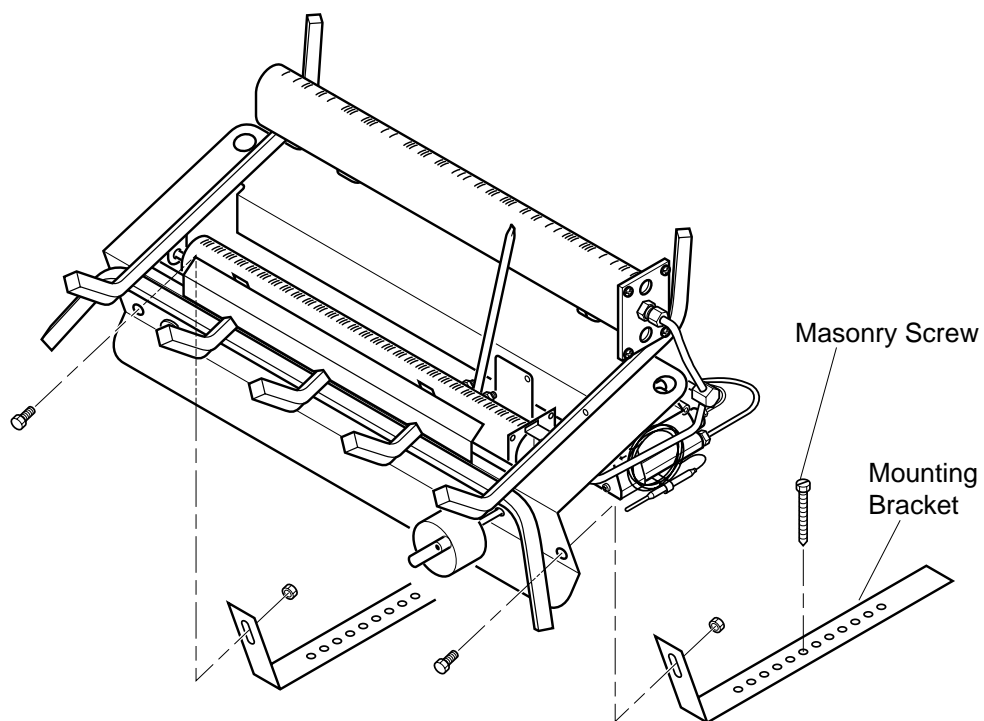

Figure 13 - Attaching Mounting Brackets to Heater
2. Locate mounting brackets, bolts, and nuts in hardware package. Attach mounting brackets to heater base (see Figure 13, page 16). Attach nuts finger tight.